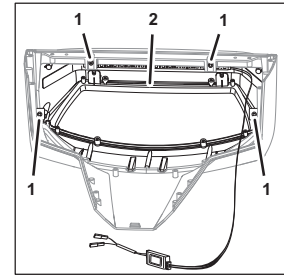

Fig. 28
4. Remove the fastening bolts (Fig. 28/1) from the taxi cab hood (Fig. 28/2).
18. Attach the taxi cab hood (Fig. 28/2) using the fastening bolts (Fig. 28/1).